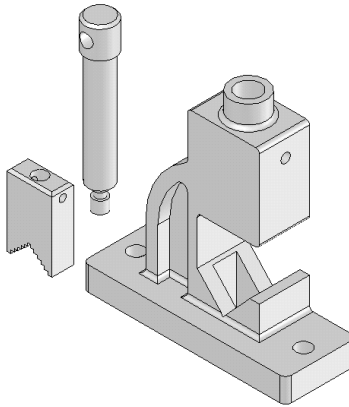

Figure 12-79 The Moveable Jaw, Screw, and Base placed in the assembly document
- Place the Moveable Jaw and the Screw in the assembly. Apply the mates between Moveable Jaw and the Screw, refer to Figures 12-79 through 12-81.
3. Similarly, place the Screw in the assembly document and choose the **OK** button from the **Insert Component PropertyManager**. Figure 12-79 shows the Moveable Jaw, Screw, and Base placed in the assembly document.